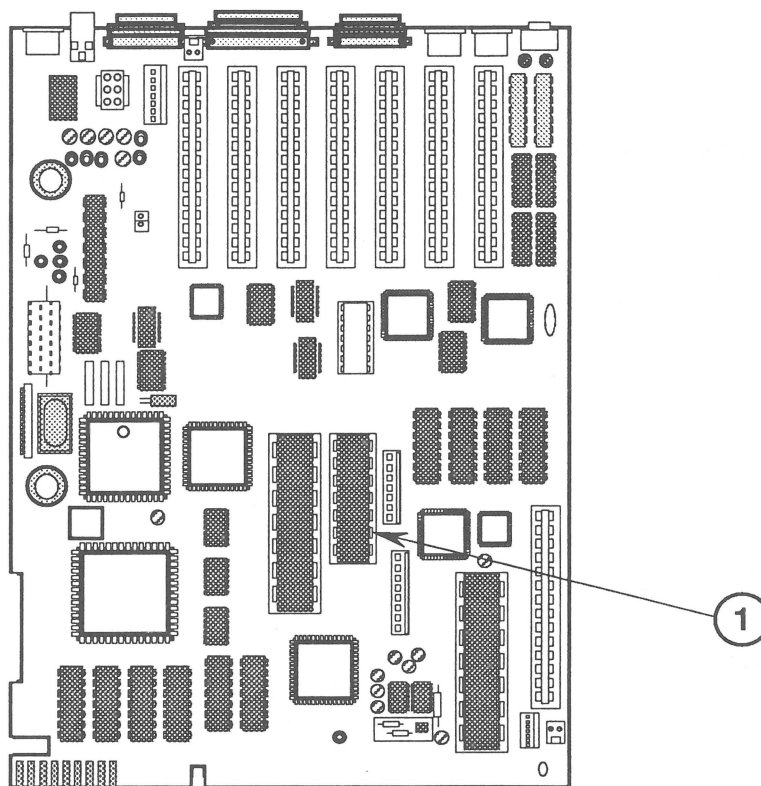

FIGURE 5
3. Locate the ROM at location H10 (Figure 5, #1), and verify that it is the old ROM (P/N 342-0077-A).
4. Using an IC extractor, remove the old ROM installed at location H10 (Figure 5, #1).
5. Install the new ROM in the same location, H10 (Figure 5, #1). The notch at one end of the ROM should be installed facing the front of the machine.